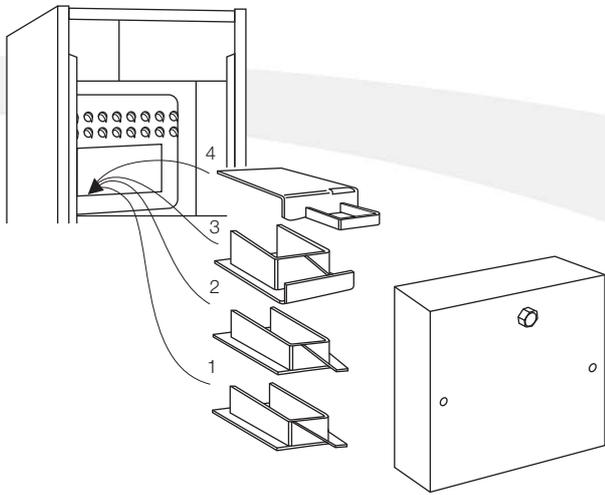
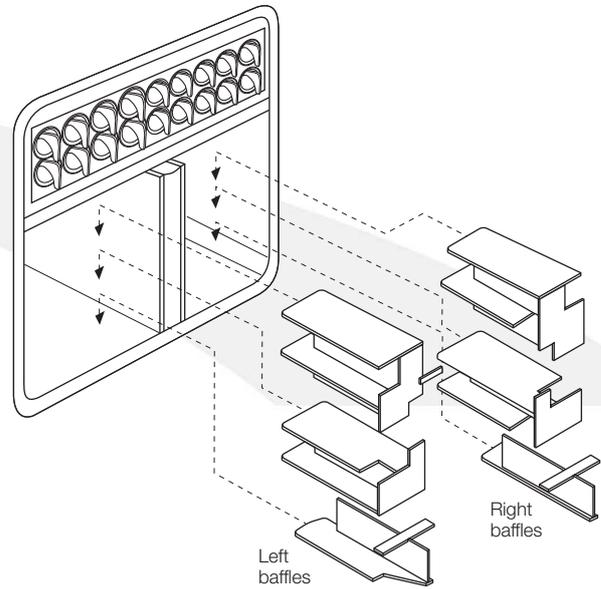
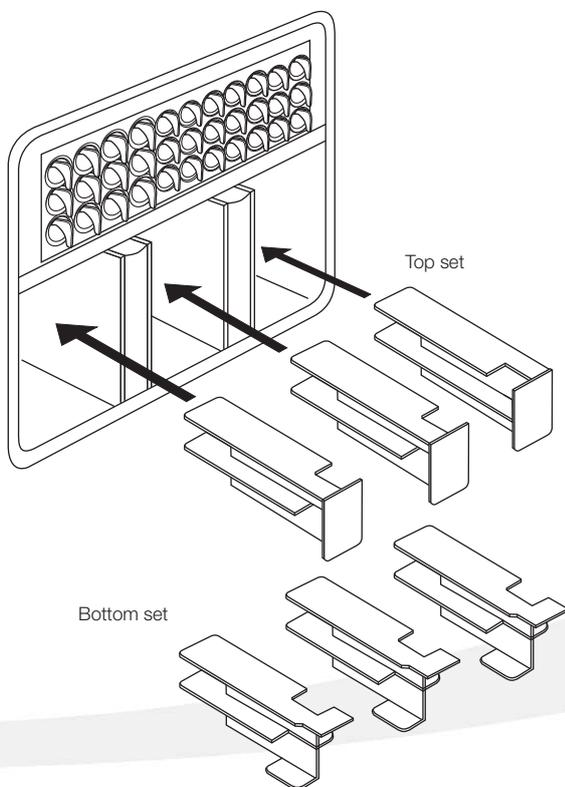
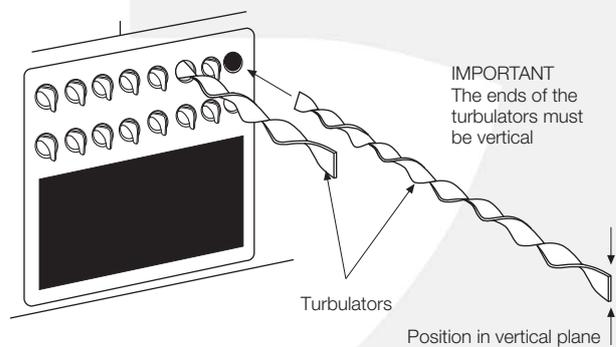

Figure 11-1: Baffles in Vortex Pro Combi 21e
Figure 11-2: Baffles in Vortex Pro Combi 26e
Figure 11-3: Baffles in Vortex Pro Combi 36e
Figure 11-4: Turbulators in Vortex Pro Combi e boilers
2. Remove the baffles as shown in Figure 11-1, Figure 11-2 and Figure 11-3.
6. Replace the baffles, ensuring they are correctly fitted. See Figure 11-1, Figure 11-2 or Figure 11-3, as appropriate. Pull out the spiral turbulators from the heat exchanger tubes. See Figure 11-4.